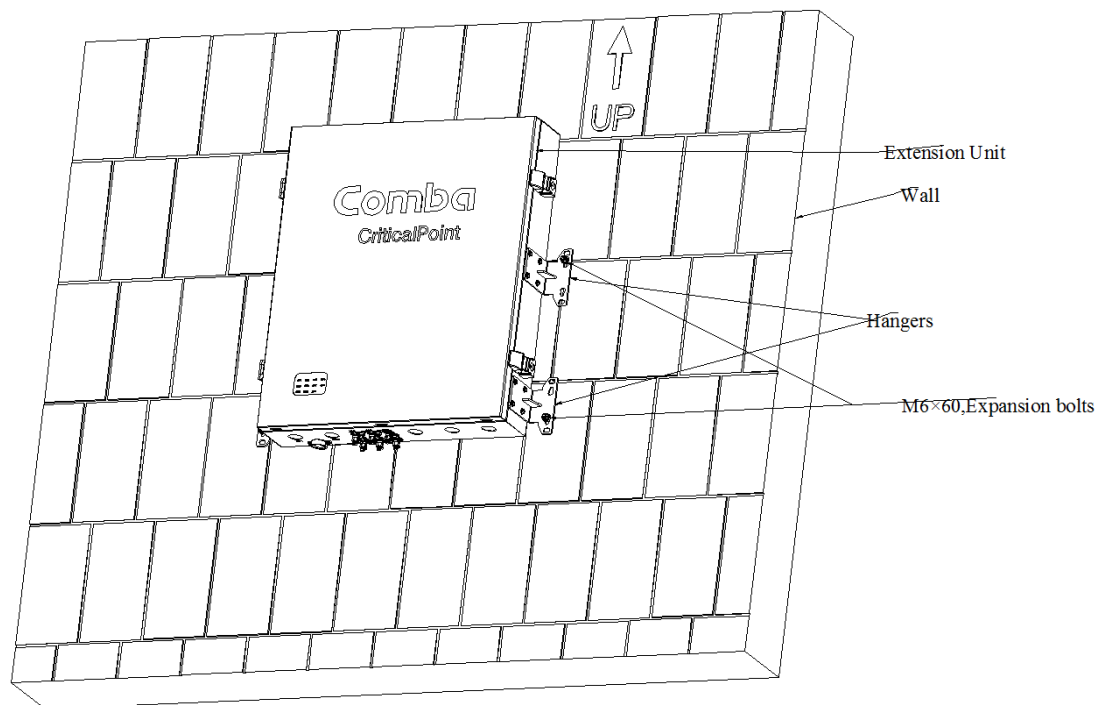

Figure 19: Expansion Unit Wall Mounting
- Remove the nut and washer of "M6×60, expansion bolt", insert the bolt and sleeve into the hole of the wall [the threaded end faces outward]; then hang the device on the bolt, and then pad it Use a wrench to tighten the screws for flat pads and spring pads, as shown in Figure 19;